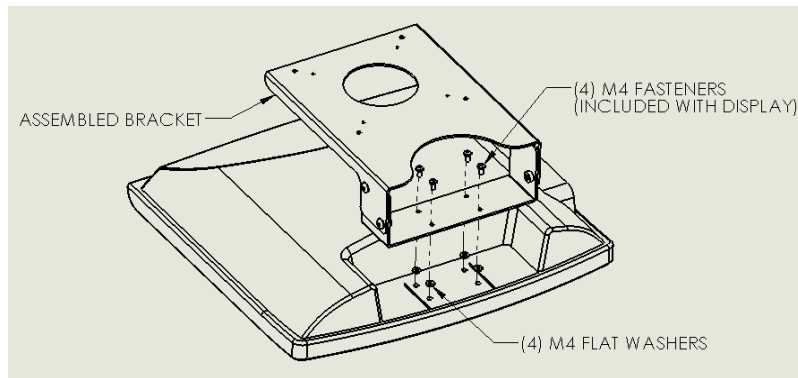

Figure 4
- Assemble bracket to display:** Attach assembled bracket to display using four M4 washers and the four M4 screws removed earlier from the display. (see Figure 4).